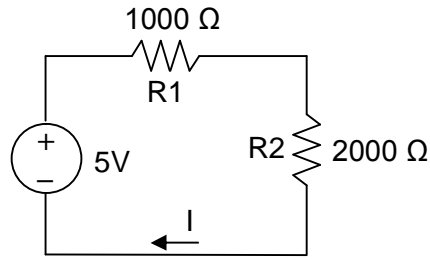

Figure 3.1: Circuit #1
1. Using the rules for adding series resistances, Kirchhoff's laws, and Ohm's law, analyze the circuit of Figure 3.1. Calculate the current  $I$  and the voltage drops across each of the resistors.
- b) With the DC power supply's OUTPUT OFF, construct the circuit in Figure 3.1.
4. Notice that, except for meters, the circuit of Figure 3.1 is electrically identical to the circuit in the B2 SPICE Analog Tutorial #1, which you did in the Pre-Lab assignment.